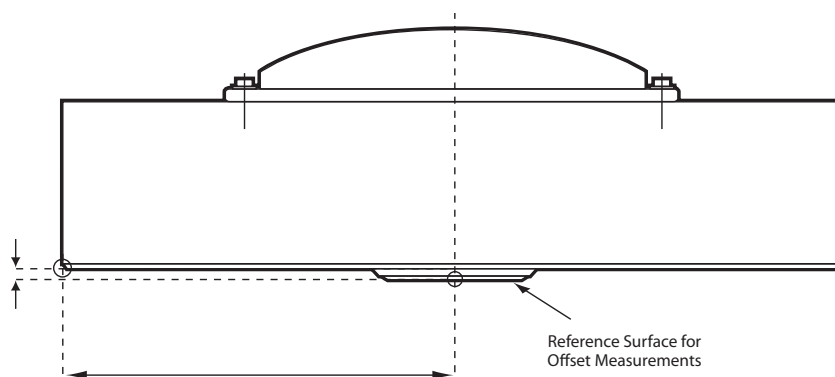

Figure 31: Measure Antenna Height – Example
1. Measure the antenna height above the control point or marker, either the slant height or the vertical height (Figure 31).